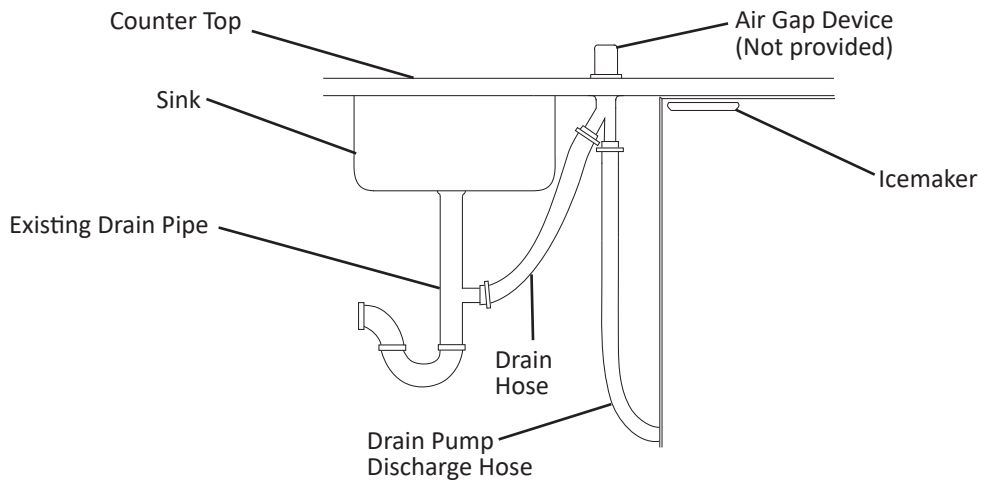

Fig. 33
- c) **Existing Drain Pipe Installation:** When connecting to a suitable existing drain pipe (sink), the drain line must be installed in accordance with applicable national, state, and local codes and regulations. **IMPORTANT! Confirm with local and state plumbing codes before connecting to an existing drain pipe. An air gap device (not included) may be required. See Fig. 33. NOTICE! Be sure there is sufficient extra tubing for the unit to be pulled out for service.** Do not allow traps or kinks in the hose that will restrict water flow. The maximum discharge hose length is 20 feet (6 m). The maximum discharge hose lift height is 10 feet (3.05 m). Cut excess hose as needed.